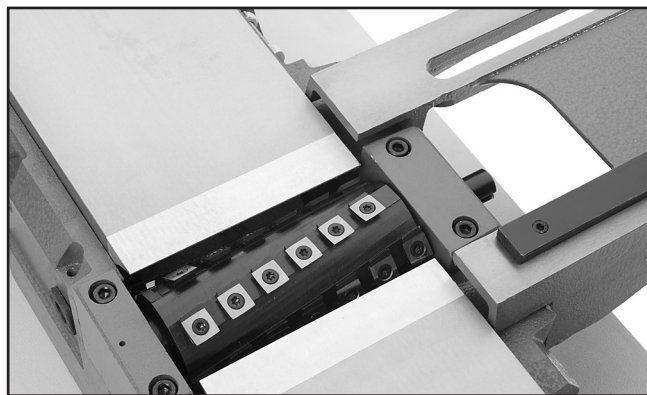

Figure 10. Example of spiral cutterhead installed.
19. Secure the bearing blocks with the cap screws and lock washers removed in **Step 8** (**Figure 10**).